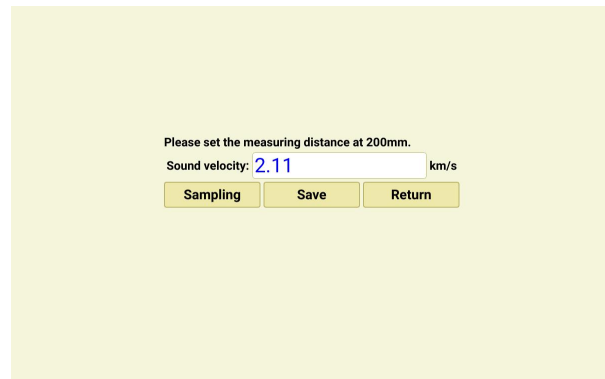

Figure 3-4 Sound speed test box
(2) Test sound velocity
- ❖ (c) Click the measurement sound speed button in the lower left corner of the screen to pop up the sound speed test box, as shown in Figure 3-4. Click on the sample to obtain the sound velocity value of the cracked part to be tested;